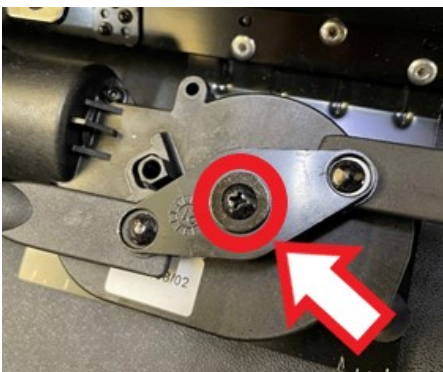

Figure 8
- Referring to Figure 8 - Remove the rotator plate fixing (2.5Nm)